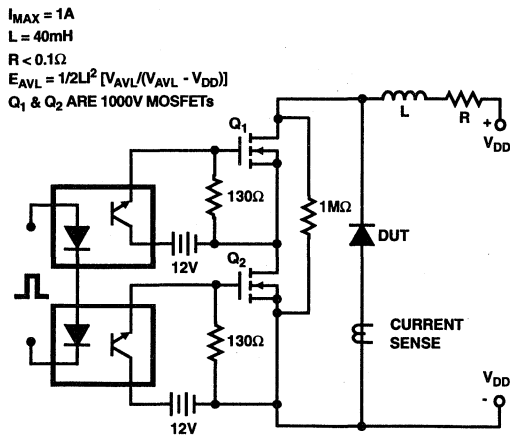

FIGURE 7. AVALANCHE ENERGY TEST CIRCUIT
- $E_{AVL}$  = Controlled avalanche energy. (See Figures 7 and 8).